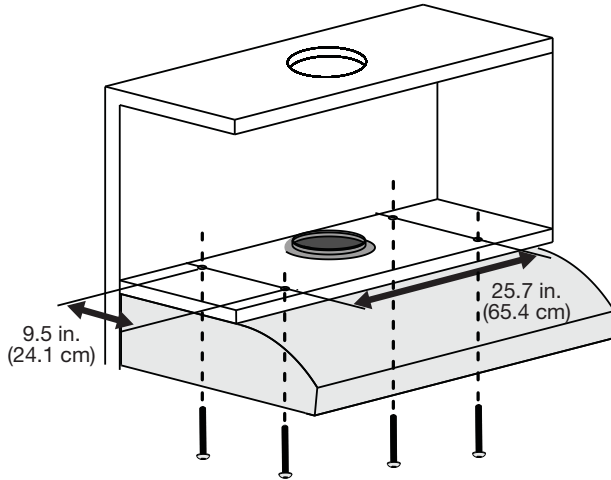

Figure 18
- Mark or drill four small holes on the mounting position according to the space and dimensions cited on the following image (Figure 18 or 20).
- The following drawings show the mounting dimensions of the 30 in. (75 cm). See Figure 18 or 20.